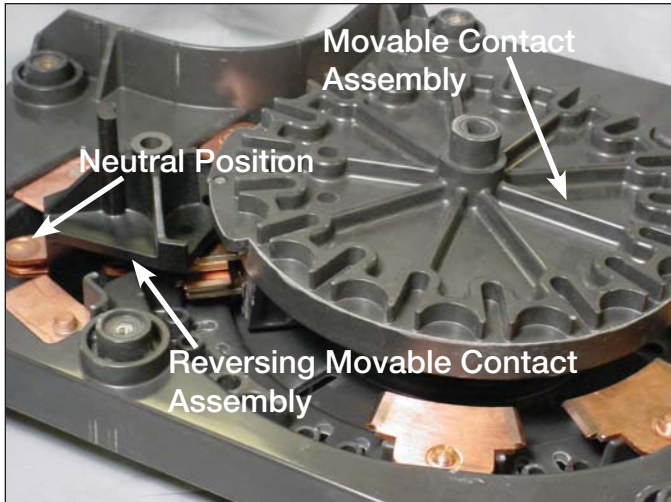

Figure 28.
14. Rotate the main movable contact Geneva gear assembly onto the neutral stationary contact located under the reversing switch assembly. See Figure 28.